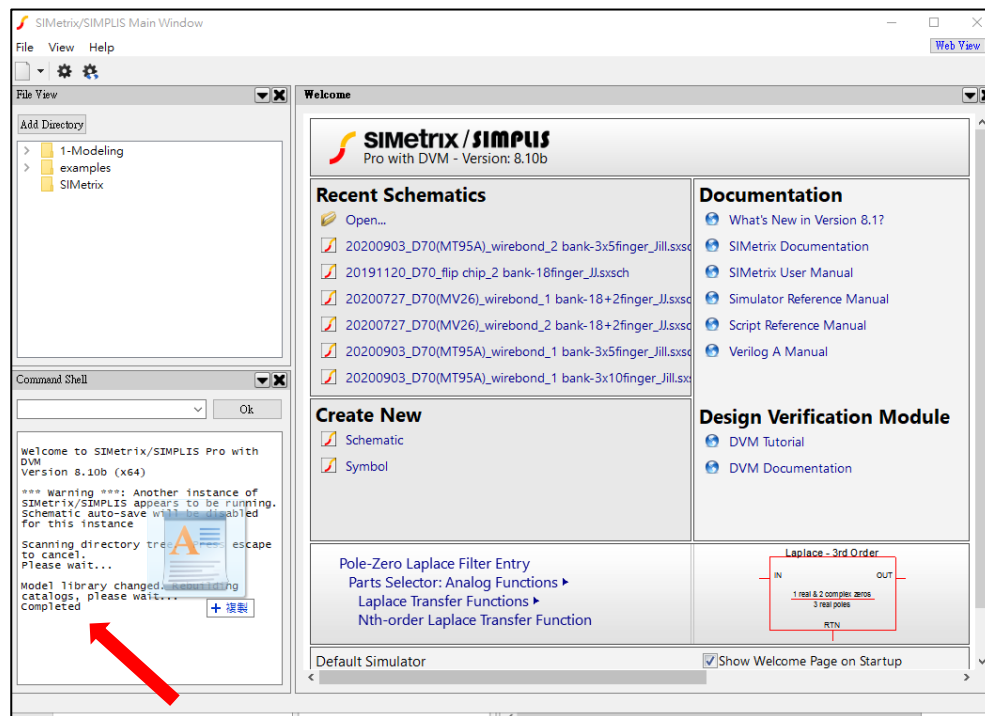

Figure 2
1. Drag the model file (XXXX.lib) to the SIMetrix **command shell window**. (as shown in Figure 2)